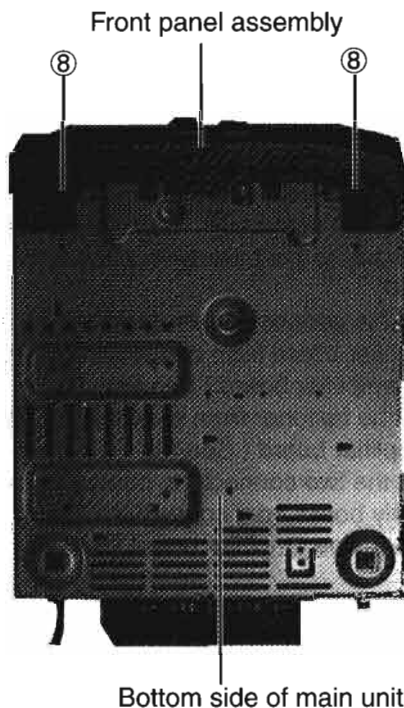

Fig. 6
■ Removal of the Front Panel Assembly (See Figs 6,7)
3. Remove the two screws ⑧ fastening the front panel assembly to the bottom of the main unit.(See Fig.6)